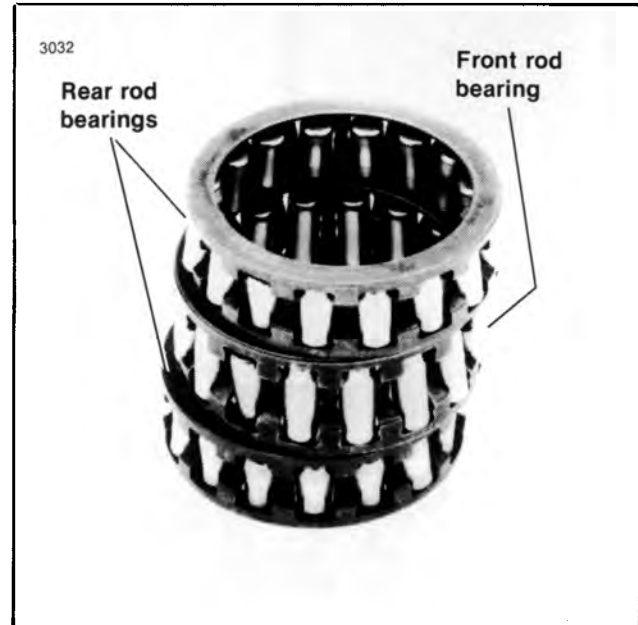

Figure 3-53. Crank Pin Bearing Set
See Figure 3-53. The 1987 connecting rod bearing set consists of three packaged bearings. The new bearing sets will retrofit earlier models, but there is another method of using these bearings.
See Figure 3-53. Oversize (OS) crank pins are available in two oversizes: 0.0010 and 0.0020 in. OS crank pins will have a blue or a red dot painted on their ends. A blue dot indicates 0.0010 in. OS, a red dot indicates 0.0020 in. OS. Standard size crank pins will not be marked.